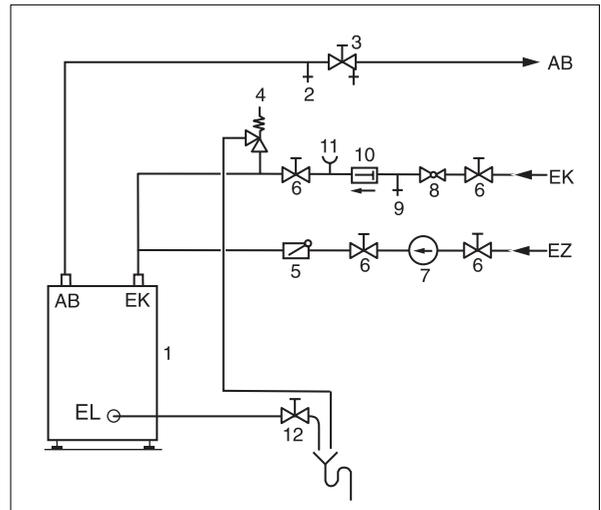

Fig. 6 Tank piping installation (sample picture)
1. Install all piping and components per local and state codes (Fig. 6).
- Install the 3/4" brass tee fitting on the DHW outlet connection (AB) with the teflon tape provided. Install P and T valve (Fig. 6, **Item. 2**) into top of the brass tee. Pipe the relief line full port to a nearby floor drain.